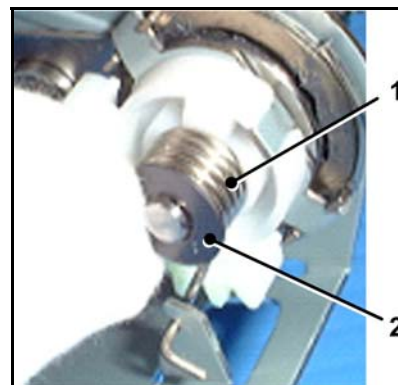

Figure 19
23. Put the spring (1) on to the spigot of Gear E (see Figure 19).
24. Put the new washer (2) on to the end of the spindle.